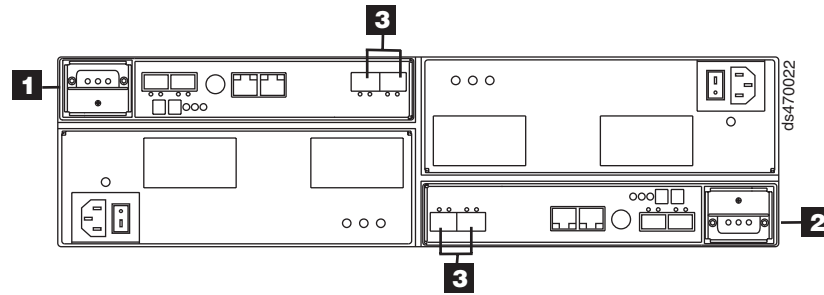
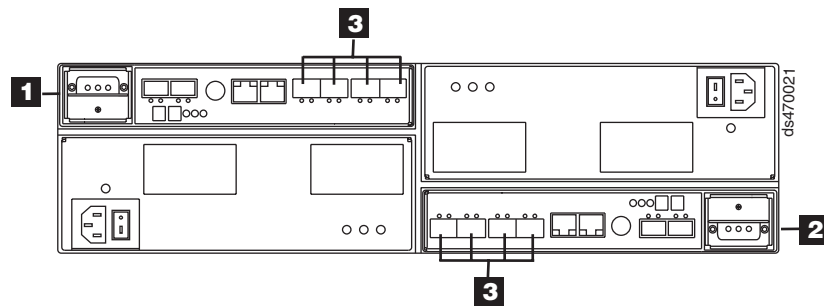

Figure 83. Location of host cables on RAID controllers on model 70 of the DS4700 Express
Figure 84. Location of host cables on RAID controllers on model 72 of the DS4700 Express
2. Connect the fibre channel cables from the SFP modules in the DS4700 Express RAID controller host ports to either the SFP modules in the fibre channel switch or the SFP modules of the host bus adapters. Figure 83 and Figure 84 show the location on the RAID controllers on models 70 and 72 of the DS4700 Express Storage Subsystem where the host-system cables connect.